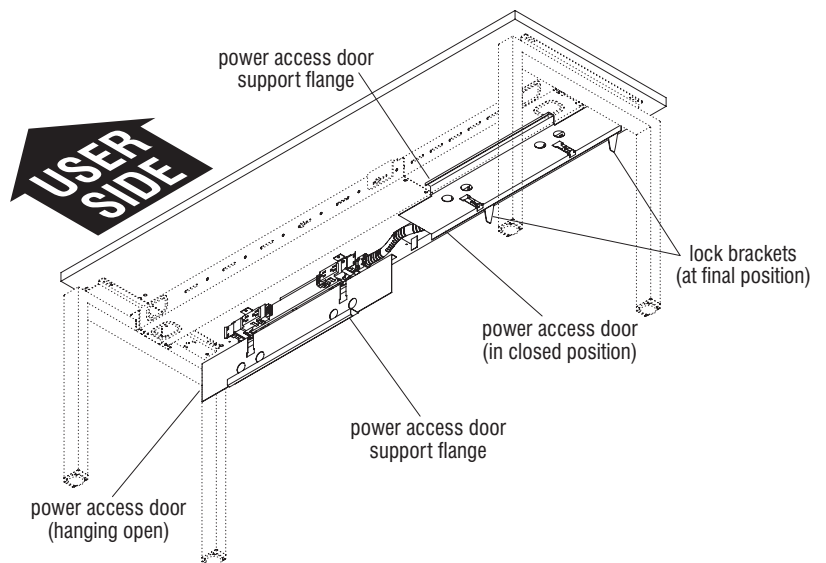

Figure 2 - Single-Sided Fixed Benching Power Access Door Installation
3. The user-side of the power access door has a support flange which hooks onto the top of the short-wall side of the beam assembly to hold the door in the closed position (Figure 2).